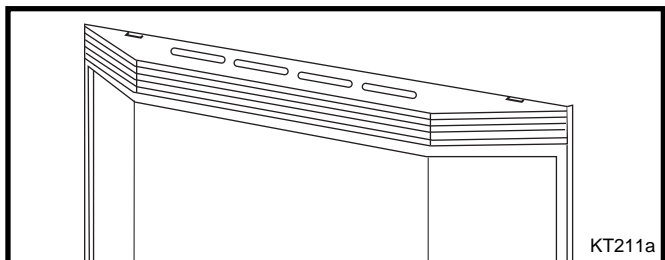

Fig. 65 Engage the slots in the upper grille top louvre with the upper tabs of the hanging brackets.
5. Install top louvre by engaging the oblong holes with the upper tabs of the hanging brackets, as shown in Figure 65.